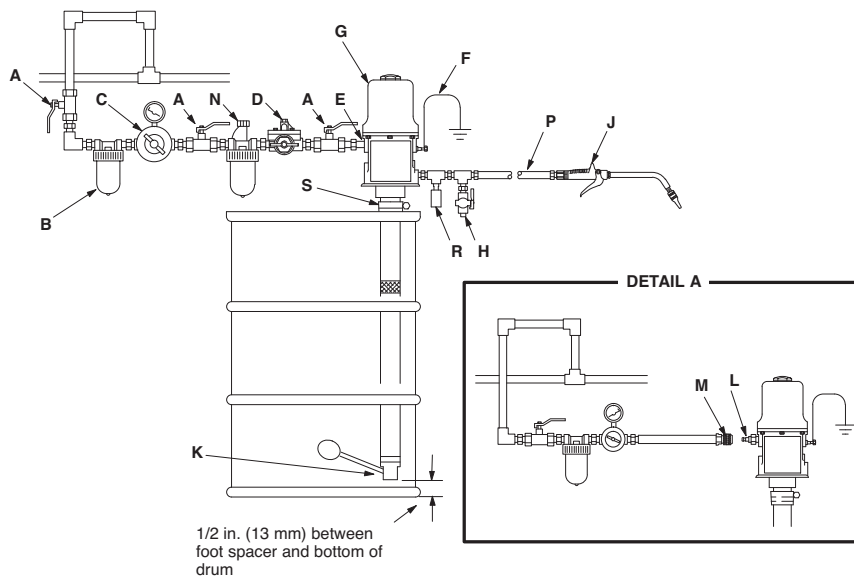

FIG. 2: Typical Installation
1. Install the pump on the drum cover so that the pump's fluid intake is 1/2 inch. (13 mm) off the bottom of the drum. (FIG. 2)
Refer to FIG. 2 for the following instructions.
**NOTE:** Install the air line accessories in the order shown in FIG. 2.
1. Install a pump runaway valve (D) to shut off the air to the pump if the pump accelerates beyond the pre-adjusted setting. A pump that runs too fast can be seriously damaged.
2. Install an air line lubricator (N) for automatic air motor lubrication.
3. Install a bleed-type master air valve (A) to relieve air trapped between the valve and the motor. As an alternative, you can install an air line quick-disconnect coupler (M) and fitting (L) to serve as an air-bleed device. See FIG. 2.
4. Install a Thermal Relief Kit (K) on the dispensing valve side of the pump.
5. Install the air regulator (C) to control pump speed and pressure.
6. Install an air line filter (B) to remove harmful dirt and contaminants from the compressed air supply. Install another bleed-type master air valve (A) to isolate the accessories for servicing.
7. Install a drain valve (H) near the pump fluid outlet.
8. Install a suitable fluid hose (P) and dispensing valve (J).